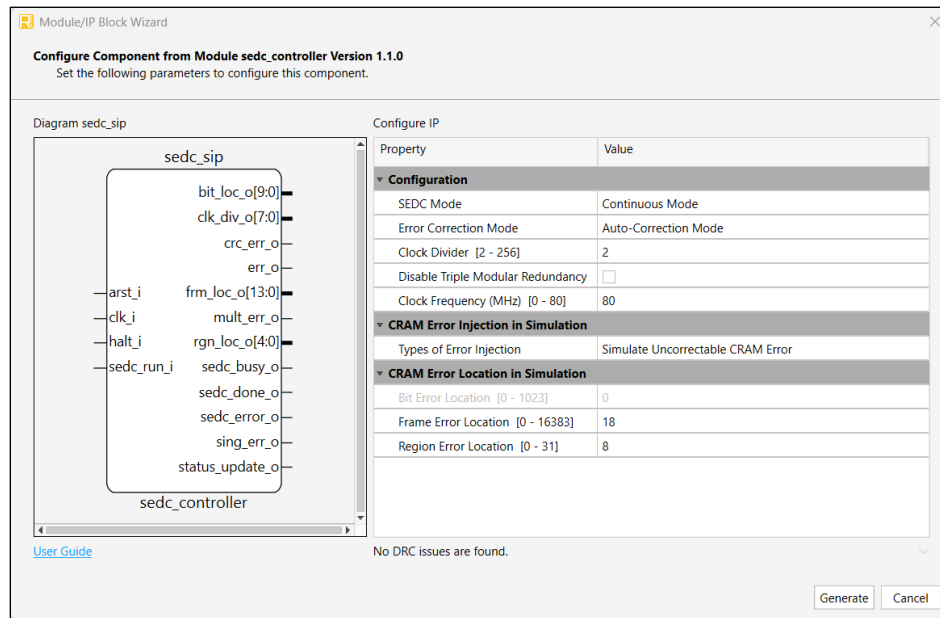

Figure 3.2. SEDC Controller IP Configuration
- sedc_sip: The SEDC Controller IP for soft error detection and soft error correction function. Figure 3.2 shows the configuration of the SEDC Controller IP as follows: